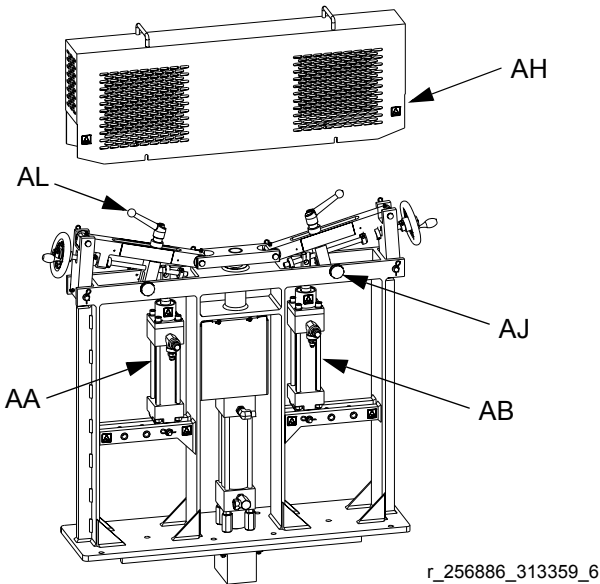

FIG. 7: Front View
- h. Ensure top of pump is in correct ratio position. Tighten ratio lock handle (AL).
- i. Install guard (AH) and tighten clamping knobs (AJ). See FIG. 7.